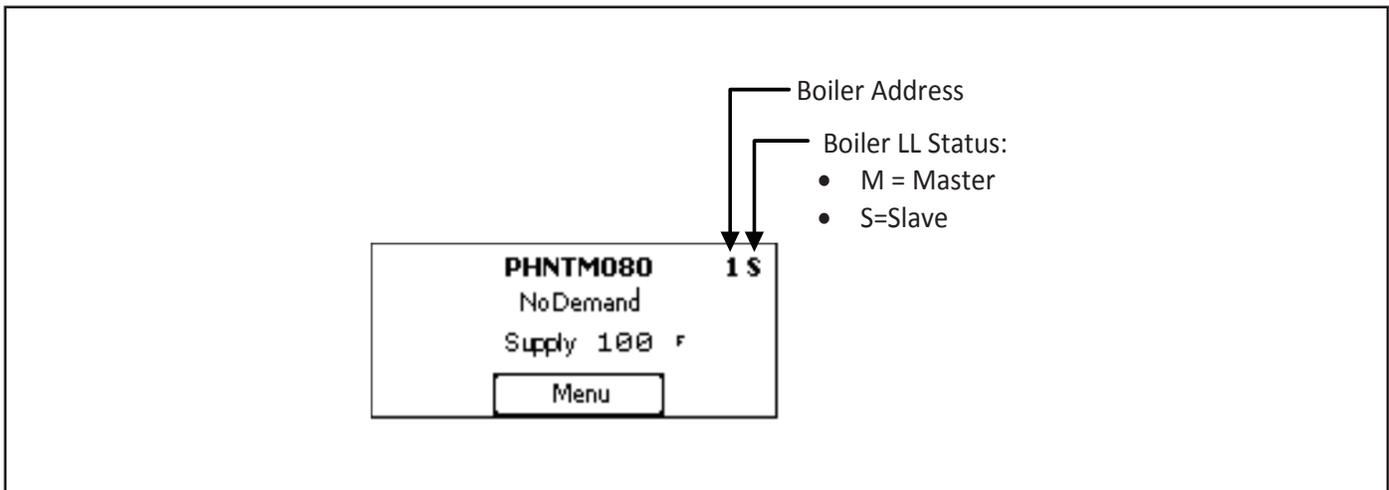

FIGURE 7.3: LEAD-LAG HOME SCREEN
- 2) Repeat the above steps for each boiler (skip (h) for all slaves). When complete return all boilers to their home screen. The boilers lead lag status (“M” for Master and “S” for Slave) will appear in the upper right corner of this screen, along with the address (Figure 7.3). Verify that:
- Home Screen (Figure 7.3) – This is the default screen shown on the boiler. It allows the user to see basic information about the boiler at a glance.